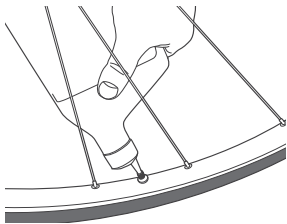

**Figure 5. Turn key counter-clockwise to remove core.**
3. Remove the valve core (Figure 5).